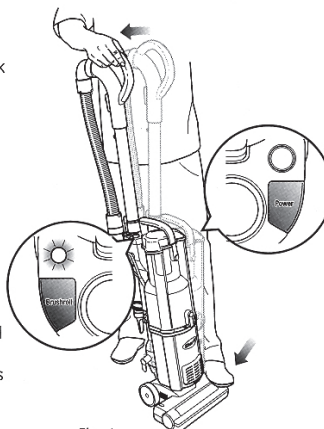

Fig. 1
IMPORTANT: To protect all floor surfaces, the brushroll will only turn on when you have pulled the handle back towards you and released the power nozzle. (Fig. 1)
For cleaning bare floors or to clean with the hose, push the "Brushroll" button to the "OFF" position for suction only. The brushroll light will turn off. (Fig. 1) The brushroll will not spin in this mode.
- 2 To remove the handle only, press the handle release button. (Fig. 1)
- 1 Press the Dust Cup release button and remove the dust cup from the vacuum. (Fig. 1)